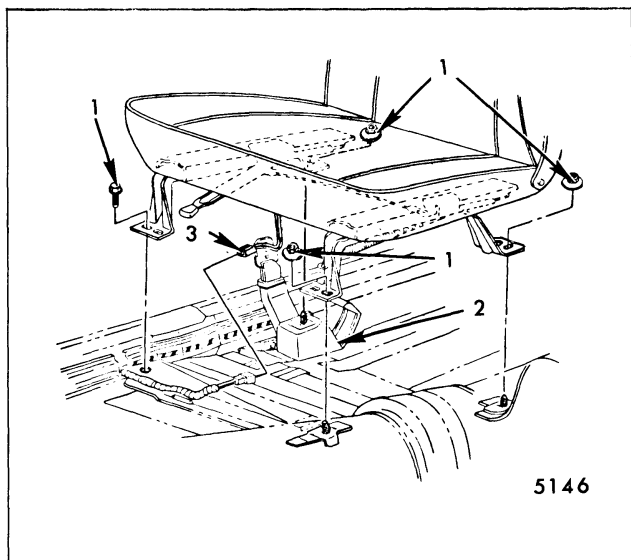

Fig. 9-13-"A" Body Manually Operated Bucket Seats, Except Swivel Buckets (Passenger Side Shown - Drivers Side Typical)
8. Fig. 9-13-"A" Body Manually Operated Bucket Seat (Except Swivel Bucket)